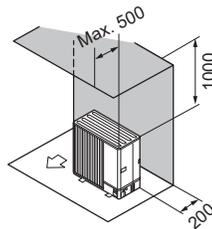

Fig. 2-10
- (2) Obstructions or closed surfaces at rear and above only (Fig. 2-10)